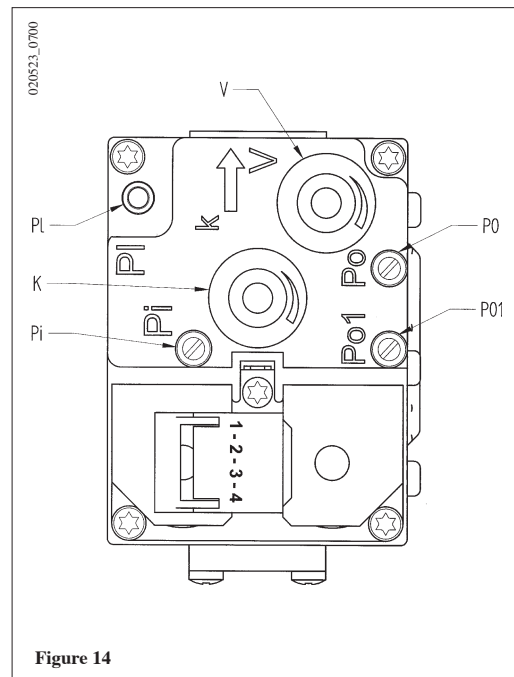

Figure 14
- a) gas valve SIEMENS model VDU 11 (figure 14);
- 1) **calibration of the maximum heat output.** Check that the CO₂ measured on the flue, with the boiler operating at the maximum heat output, is the same as that shown in table 1. Otherwise, turn the regulation screw (V) on the gas valve.
- a) *gas valve SIEMENS model VDU 11 (figure 14):* turn the screw clockwise to increase the concentration of CO₂ and anticlockwise to reduce it;